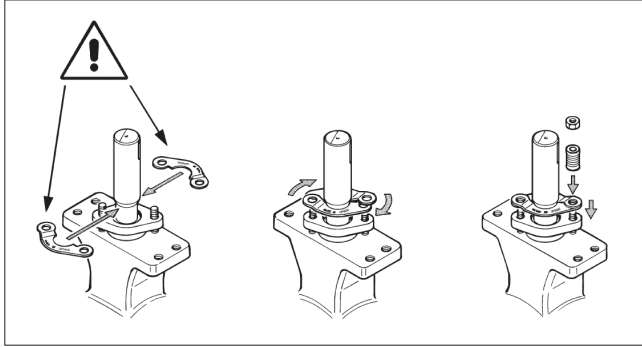

Fig. 10 Mounting the retainer
- Unfasten the nuts (43) and remove the disc spring sets (21), the retaining plates (24) and the gland (9).
- Remove old packing rings (22). Do not damage the surfaces of the packing ring counterbore and shaft. It is not necessary to change anti-extrusion ring (23).
- Install the retainer plates, one on top of another on the stud and the opposite another way around (Figure 10). Once the retainer plates are in the right place, install the other stud.